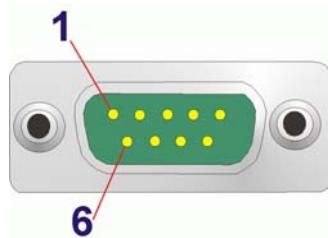

Figure 3-25: Serial Port Pinout Locations
**CN Pinouts:** See **Table 3-25** and **Figure 3-25**